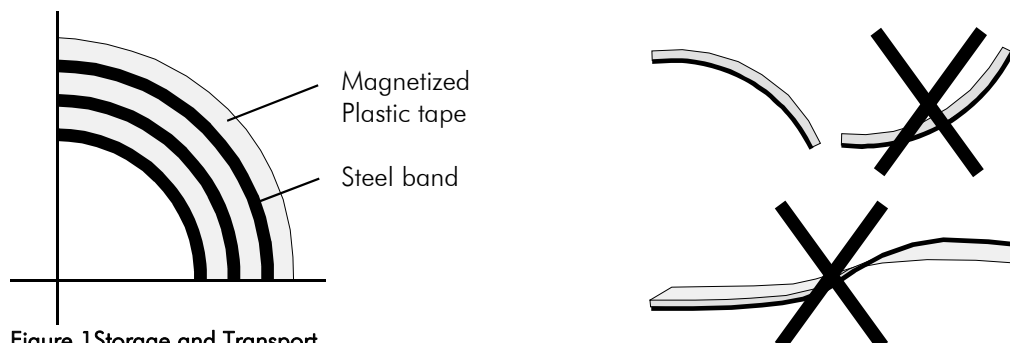

Figure 1 Storage and Transport
The tape consists of 3 components (see Figure 1), a magnetized, flexible plastic tape (Item 3), which is connected with a steel band (Item 5) and a cover tape (item 1), which is for protection of the plastic tape. The cover tape is needed for the mechanical protection of the magnetic tape. In addition, it protects the magnetic tape from extreme external magnetic influences.